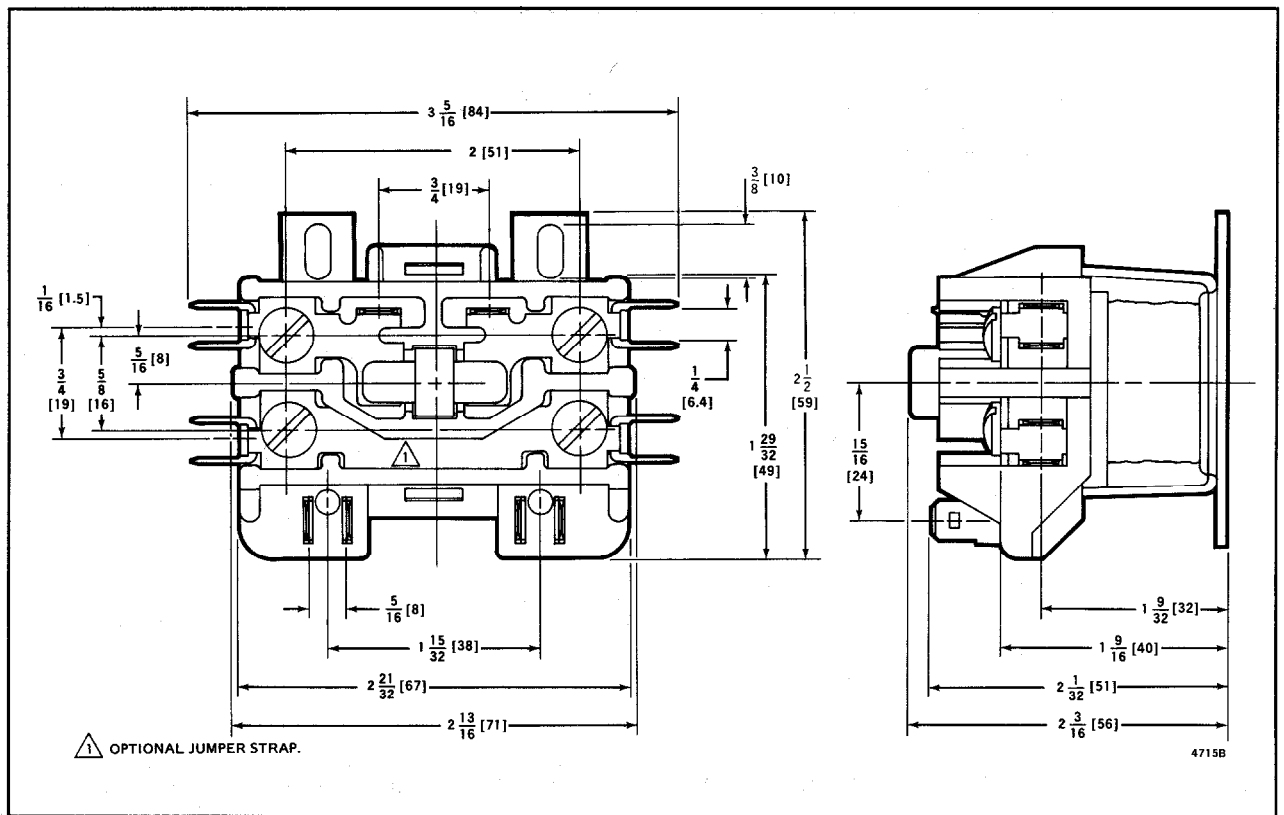

FIG. 1—DIMENSIONS OF R4242A,C; R4243A; R8242A,C; AND R8243A CONTACTORS, IN in. [mm IN BRACKETS].
1. Jumper strap with 2 screw terminals and 4 accessory quick-connects, for spst models only. See Fig. 1.